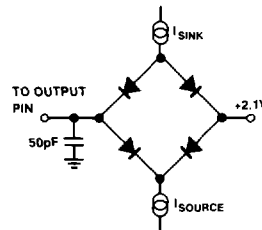

Figure 3. Load Circuit for Bus Access and Relinquish Time
- ⁴ t_3 and t_4 are measured with the load circuit of Figure 3 and defined as the time required for an output to cross 0.4 V or 2.4 V.
- ⁵ t_5 and t_6 are derived from the measured time taken by the data outputs to change by 0.5 V when loaded with the circuit of Figure 3. The measured number is then extrapolated back to remove the effects of charging the 50 pF capacitor. This means that the times, t_5 and t_6 , quoted in the timing characteristics are the true values for the device and as such are independent of external bus loading capacitances.